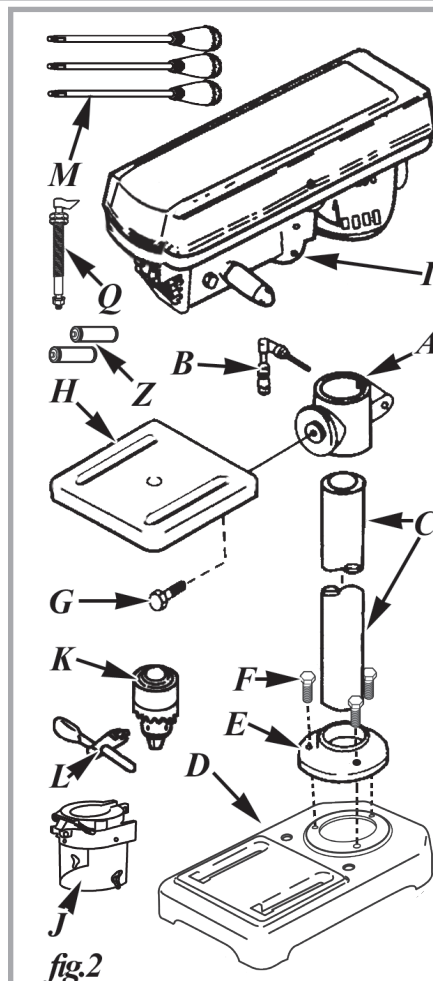

fig.2
Separate all parts from the packing materials and check carefully against fig. 2 and the list below.
1. Install 3 pcs. M8 x 20 bolts (F, fig 2), threading them into the base (D, fig 2 & 3) through the column support collar (E, fig 2 & 3) and tighten them with a wrench.
2. Slide the table support bracket (A, fig 2 & 3) onto the column.
3. Install the support lock handle (B, fig 2 & 3) from the left side into the table support, align the table with the base and and tighten the support lock handle by hand.
7. Screw the three feed handles (M, fig 2 & 3) into the the threaded holes in the hub. Instead of using the knobs for leverage and possibly stripping them, use a wrench on the flats at the threaded ends of the handles to tighten.
11. Clean out the tapered hole in the chuck (K, fig 2 & 3), removing any grease, anti-rust coating or dirt you find.
1. Open the belt & pulley cover (U, fig 2 & 3) and choose the best speed for the drilling operation planned and install the belt in the correct position on the pulleys to produce that speed.
7. Insert the chuck key (L, fig 2) and turn it clockwise to tighten (and counter-clockwise to loosen) the drill bit. Tighten the chuck sufficiently to prevent the bit slipping in the jaws during drilling. As a test, turn the drill press on and immediately off to check if the drill bit wobbles.
8. To position the table (H, fig 2) vertically, loosen the support lock handle (B, fig 2) and raise or lower the table to the desired position. Re-tighten the support lock handle.
10. To tilt the table, loosen the table bevel lock screw (G, fig 2) under the table, tilt the table to the desired angle (you can use the bevel scale on the support as a rough gauge) and re-tighten the table bevel lock screw.